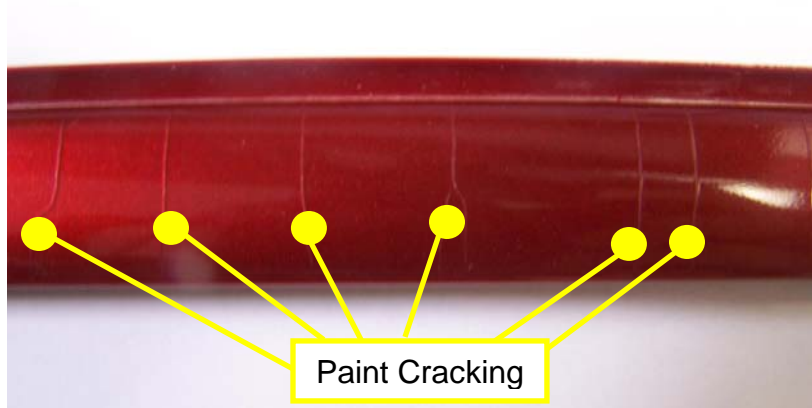

Figure 1 – Roof Molding
2. Is the paint cracking as shown in (Fig. 1)?